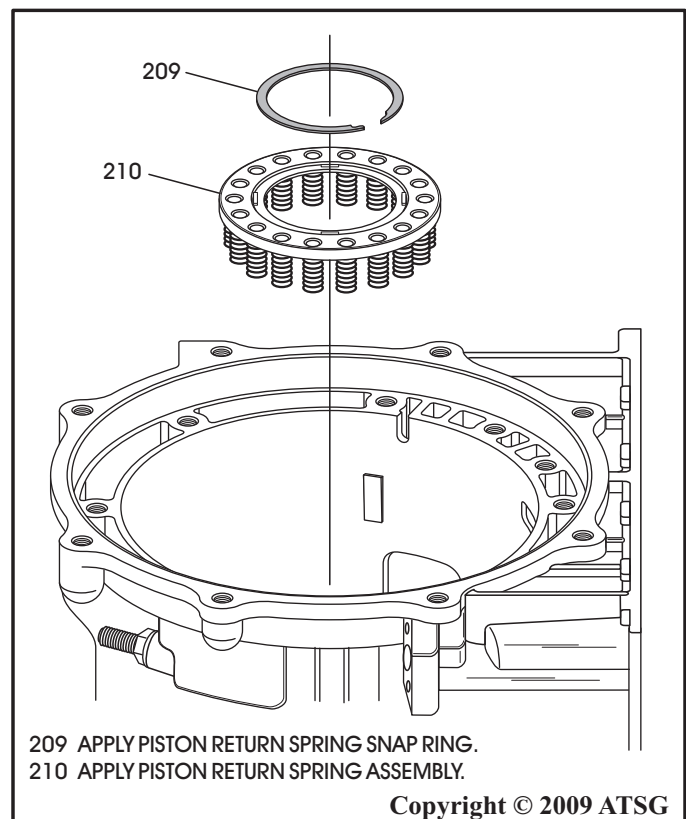

Figure 69
72. Compress the spring retainer and remove the snap ring (See Figure 69).
74. Remove the snap ring and piston return spring assembly from case, as shown in Figure 69.